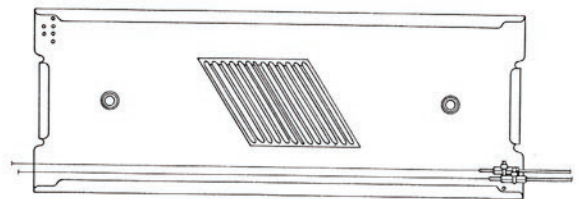

FIGURE 7
8.03 Lay the buffer tubes onto the tray so the felt taped area will stay within the tie wraps. Securely tighten the tie wraps to hold each buffer tube to the tray, Figure 7.